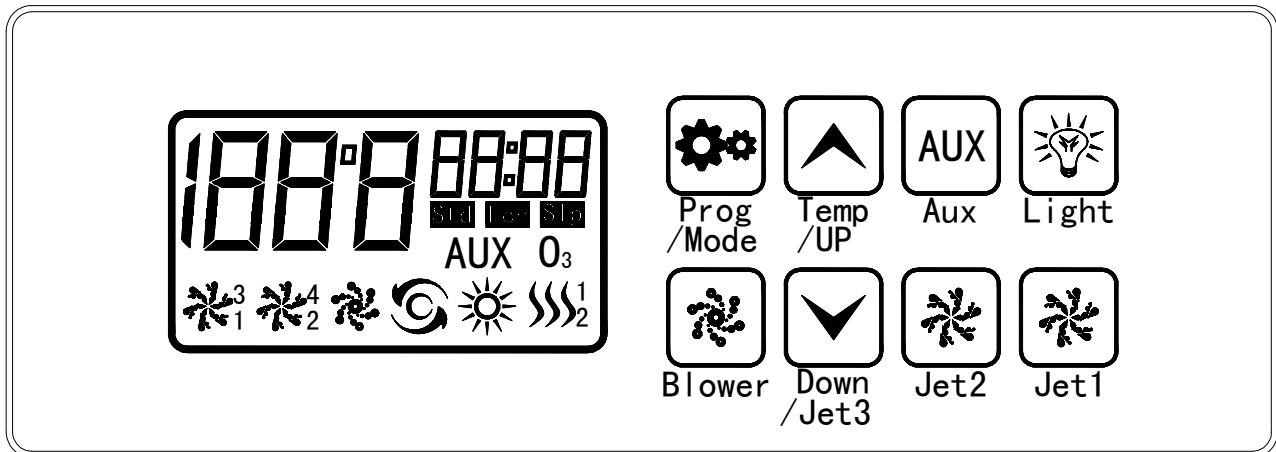
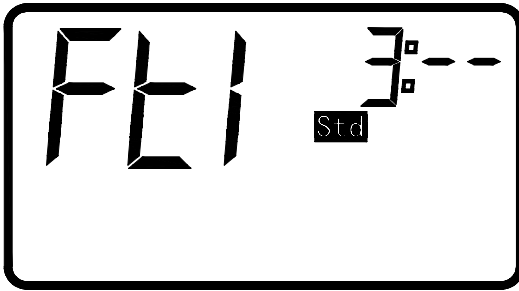

Fig3: Tuch panel
Fig4: continued working timer is 3 hours
5、 After complete the start working clock setting , Press “” button again (press this button the third time) or press “” button thrice under non-setting station, the system will go to continued working timer setting. The timer can be set 3、 6、 9 hours or for continuous filtration FILC (Fig4)。 the default filter timer is 3hours (Fig3)。